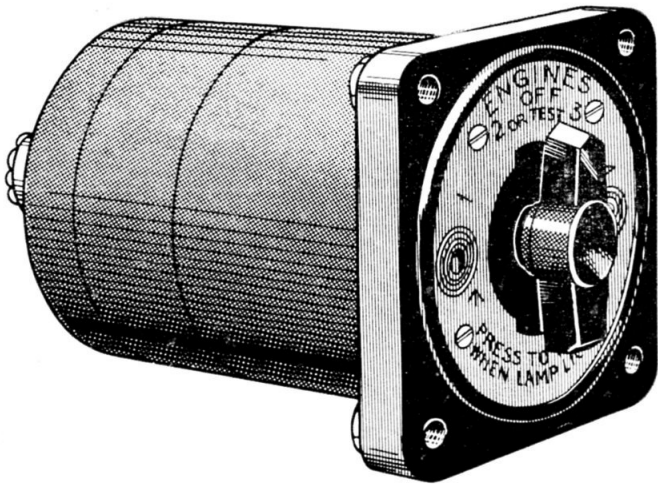

Fig. 1. Engine priming switch, Type C1820Y
2. A general view of the switch is shown in fig. 1. The dial shown is that for use on four-